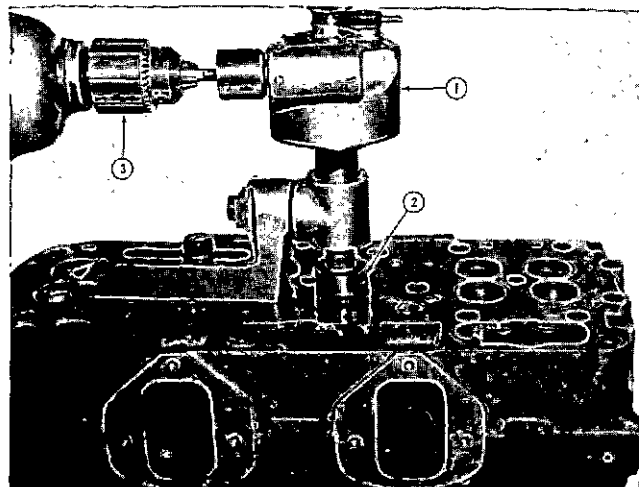

Fig. 2-3-2, V40232. Counterbore for valve seat insert
3. ST-257 Valve Seat Insert Tool, (1, Fig. 2-3-2) must be used to hold and drive cutters. ST-257 must be driven by an electric drill (3, Fig. 2-3-2).
4. ST-662 Cutter Set and ST-663 Valve Guide Mandrel Set are used with ST-257 when cutting valve seat insert counterbore. Select the proper size cutter (2), cutter drive (11), proper size tapered arbor for guide and insert it in valve stem guide.